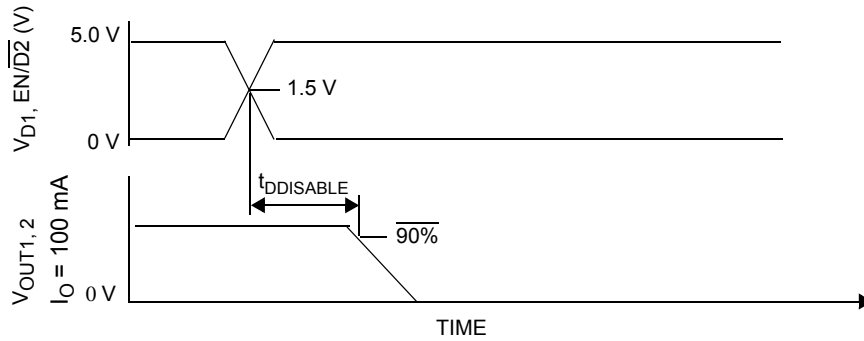

Figure 5. Disable delay time
- * Disable Delay Time measurement is defined in Figure 5, page 10.